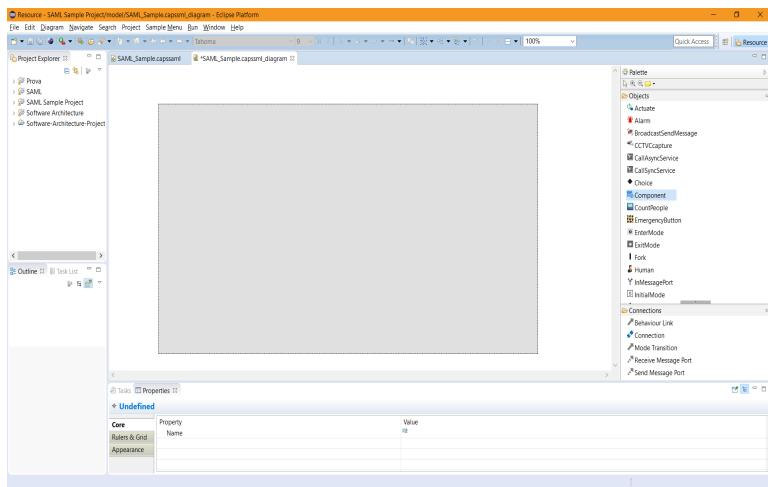

Figure 2.10: Creating the component
- Let's create something. Imagine that we want to model the following scenario: a temperature sensor that senses the temperature and sends it to a server. First of all, find the **component** item in the palette. Select it and create it in the center of the view (just create a rectangle like in paint: left click and enlarge it as you wish) (figure 2.10);